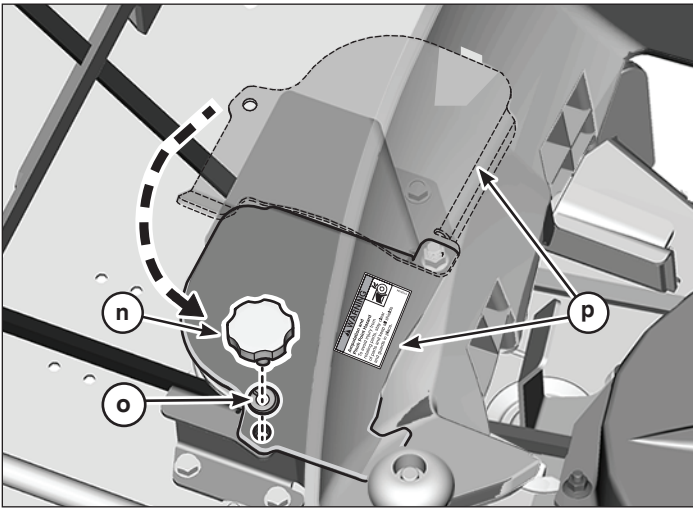

Figure 38
11. Rotate cover (p, Figure 38) back and secure with lockwasher (o) and knob (n).